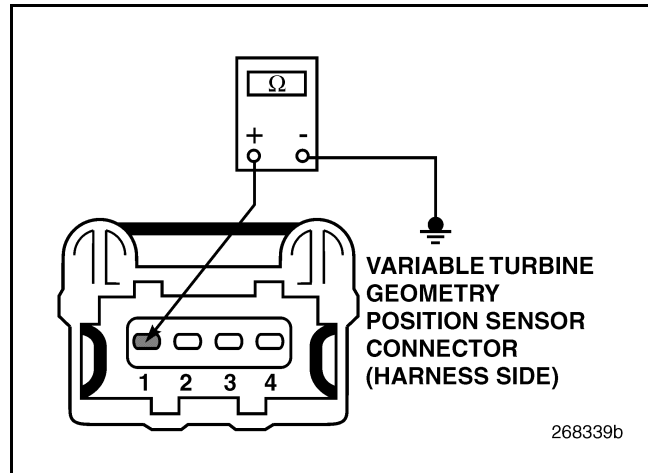

Figure 497
3. Check for continuity between VTG Position Sensor harness connector pin 1 (signal line) and a good ground (see Figure 497).